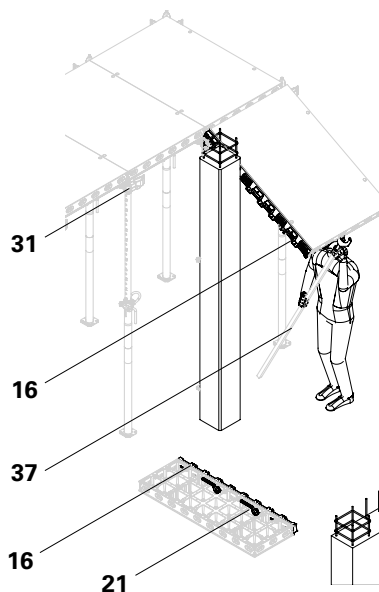

Fig. D3.06
3. Mount the 18 DFS filler support (16) on the long panel side using 2 DUO couplers (21). (Fig. D3.06)
4. Hook the DP panel (10) prepared with the filler support crosswise into the DFH propheads (31). The filler support must be pointing towards the column. Push upwards with the DUO shuttering aid (37) and position on the DUO shuttering aid (37). (Fig. D3.06)